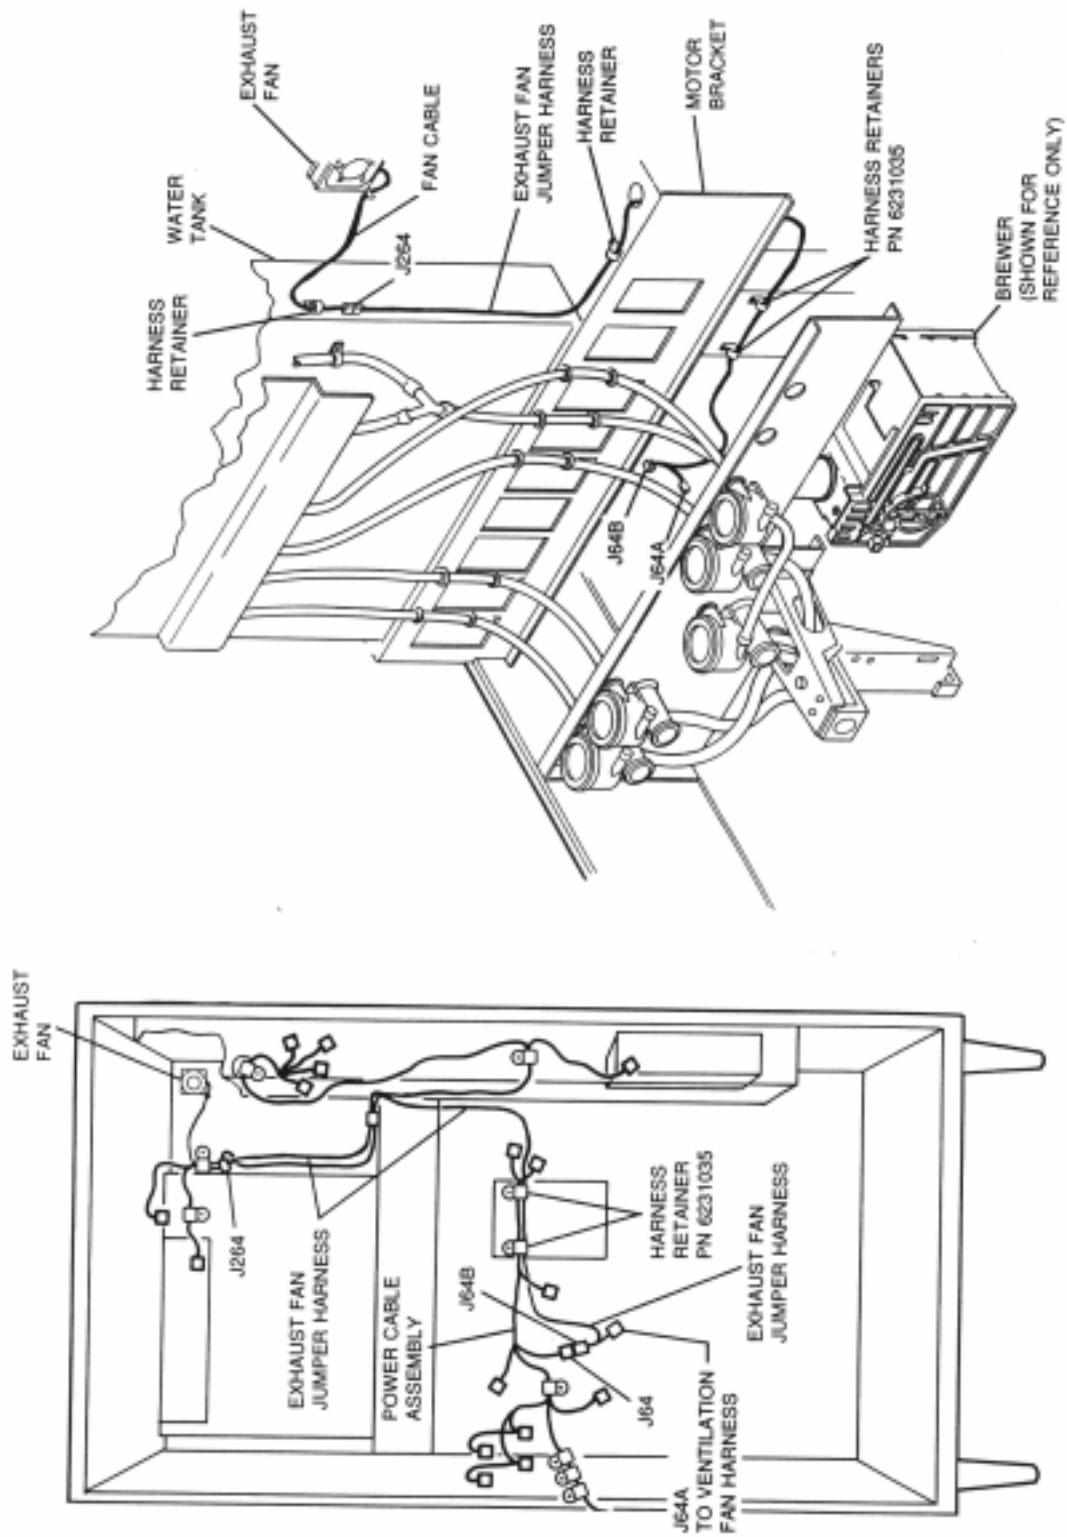

Figure 2.
6. Route the fan cable through the harness retainer just installed and then through the harness retainer on the side of the water tank. Shown in Figure 2.
***Refer to Figure 2.***